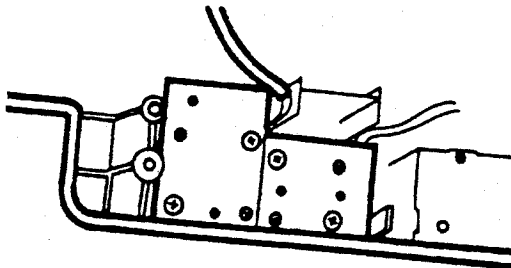

Figure 7
1. Undo the mains connector and controls connector, figure 7.
2. Remove the 4 screws, figure 7.